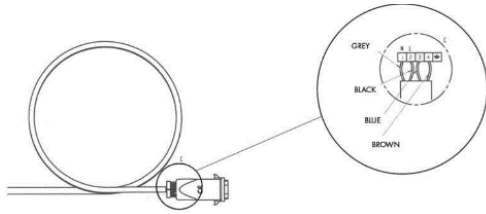

fig.11
- make the necessary electrical connections according to the diagram shown in fig. 11;